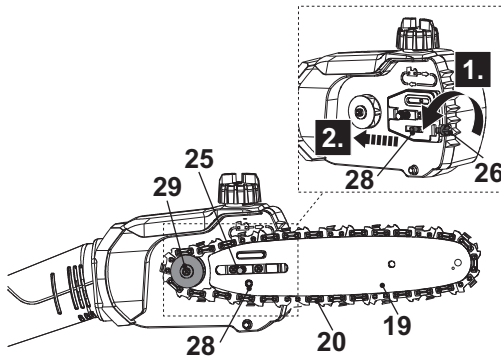

Fig. 7
5. Align the saw chain (20) and the guide bar (19) assembly with the drive sprocket (29) and the mounting bolt (25). Lay the saw chain (20) around the drive sprocket (29) and then lower the guide bar (19) to install it to the mounting bolt (25) (Fig. 7).
6. Make sure the tension pin (28) is inserted into the lower hole on the guide bar (19). Screwing the tension screw (26) with the multi tool (31) in or out to adjust the position of the tension pin (28) if necessary.